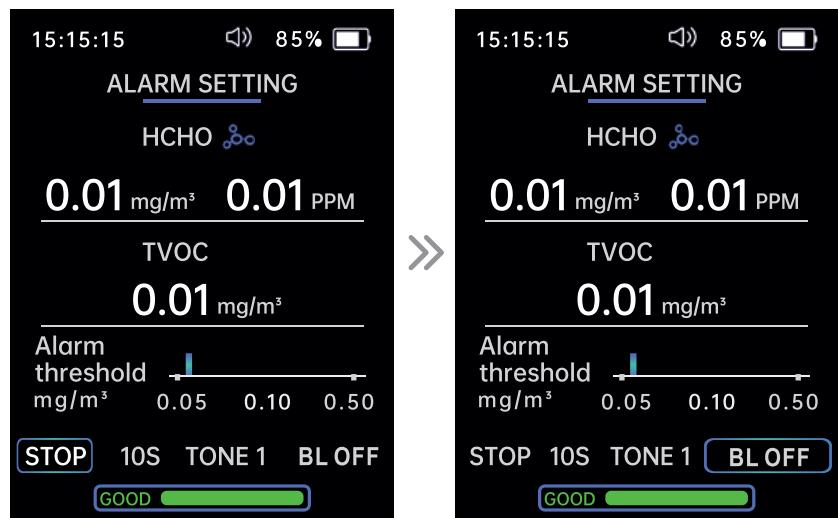

Figure 5
Press the Left (4) and Right (8) buttons to select the required parameters (Fig. 5). Press the ETR button (3) to confirm.